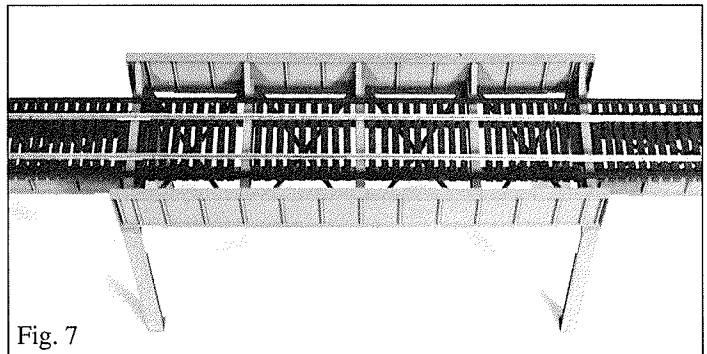

Fig. 7
1. Connect the sections of **bridge Flex-Trak** (18) together using the **rail joiners** (19) or solder the rail ends together. To enable the bridge track ties to sit on the **stringers** of the thru girder span(s), six ties must be removed from the section of track where they interfere with the **crossbeams** (see fig. 7). Cut out two ties at the center **crossbeam** and a single tie at the other four **crossbeams** so the track on the thru girder span will be left with four sections of nine ties. Adjust the spacing of these four tie sections and the spacing of individual ties for proper fit to the span. Use care when cutting and spacing ties to avoid popping the remaining ties off the rail. If building a 160' bridge, repeat with the second thru girder span. Trim the track to length to fit your bridge but do not cement the track to the bridge yet.
2. Using CA cement, glue the **guard timbers** (20) to the top of the ties, with the bolt head detail up, 2 scale inches (.023") in from the tie ends. If you want to weather the bridge track do so at this point.